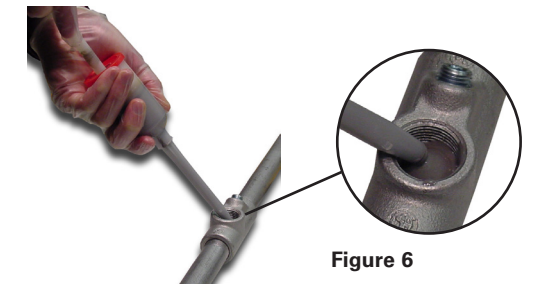

Figure 6
- Use the mixing rod to push the plunger. Inject the proper amount of sealing compound material into the fitting through the EYS threaded opening. See Figure 6. See Table 1 at the beginning of installation instructions for proper amount of material. Cartridge is marked at 1/2 used point.